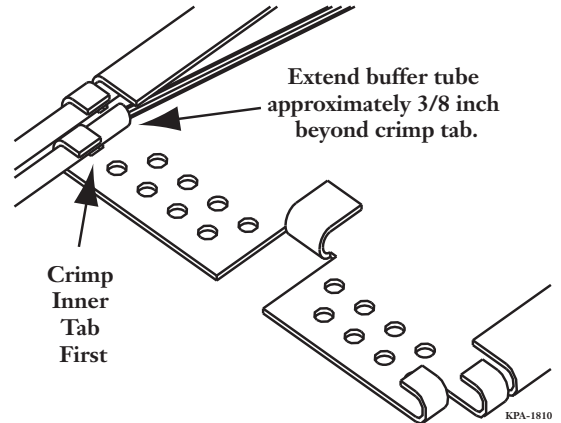

Figure 27
**Step 3:** Using the inner tab on the splice tray first, position the buffer tube approximately 1 cm (3/8 inch) beyond the tab (Figure 27).